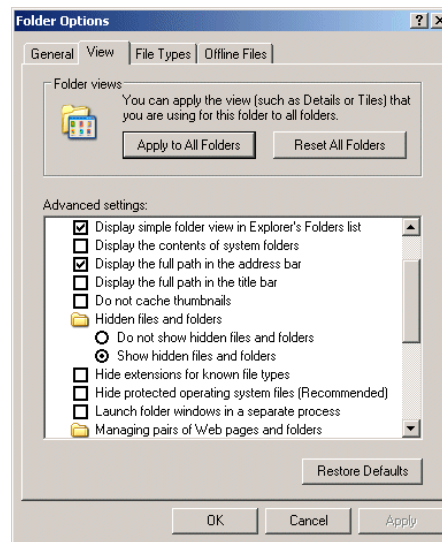

Figure 11-7: Windows Explorer Tools Folder Options Dialog
- v. Uncheck the “Hide protected Operating system files....” as illustrated in Figure 11-7.